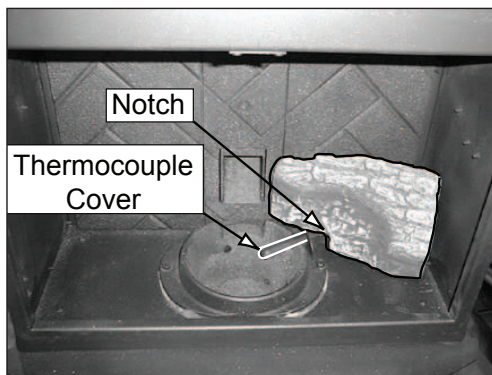

Figure 20.1
2. To position the logs, place the right rear log as shown in **Figure 20.1**. There is a notch in the bottom of the log for clearance for the thermocouple and thermocouple cover (ceramic protection tube).